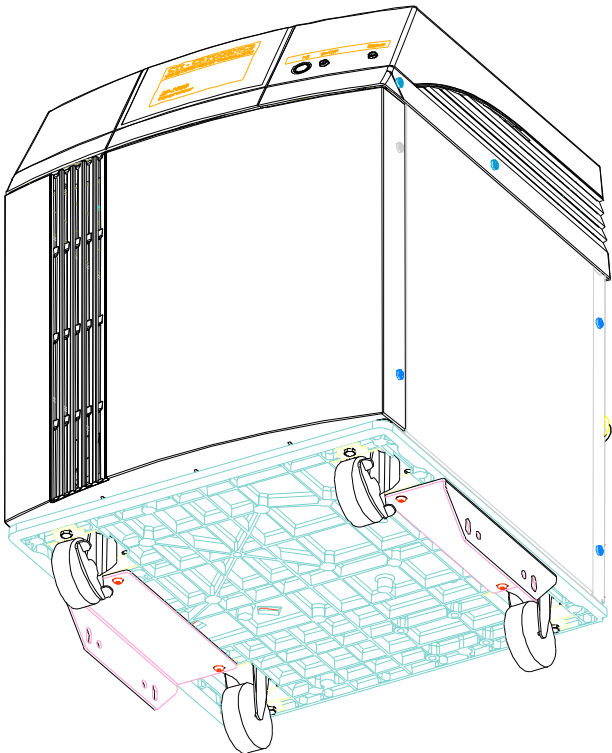

Figure 3: /S-1000 Compressor Seismic Mounting Brackets Installed
4. If you raised the unit using a lifting device, remove the mounting blocks and carefully, slowly and safely lower the /S-1000 Compressor to the floor. The completed installation of the seismic mounting brackets is shown in Figure 3.